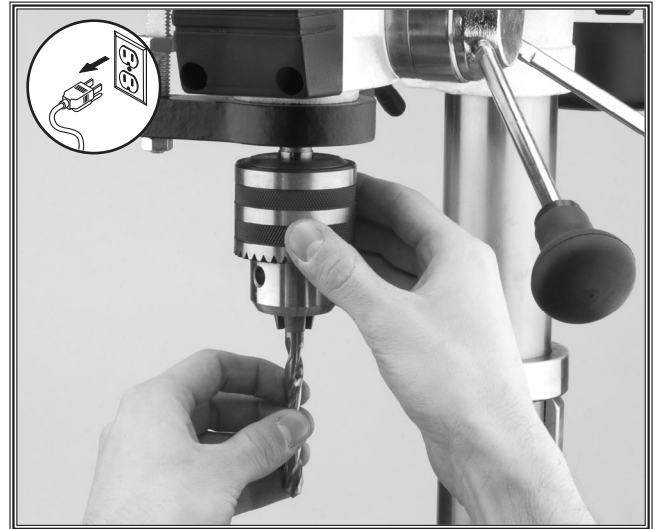

Figure 33. Installing a drill bit.
2. Use the chuck key to remove the old drill bit, and open the chuck wide enough to accept the new bit or the sanding drum mandrel (see **Figure 33**).